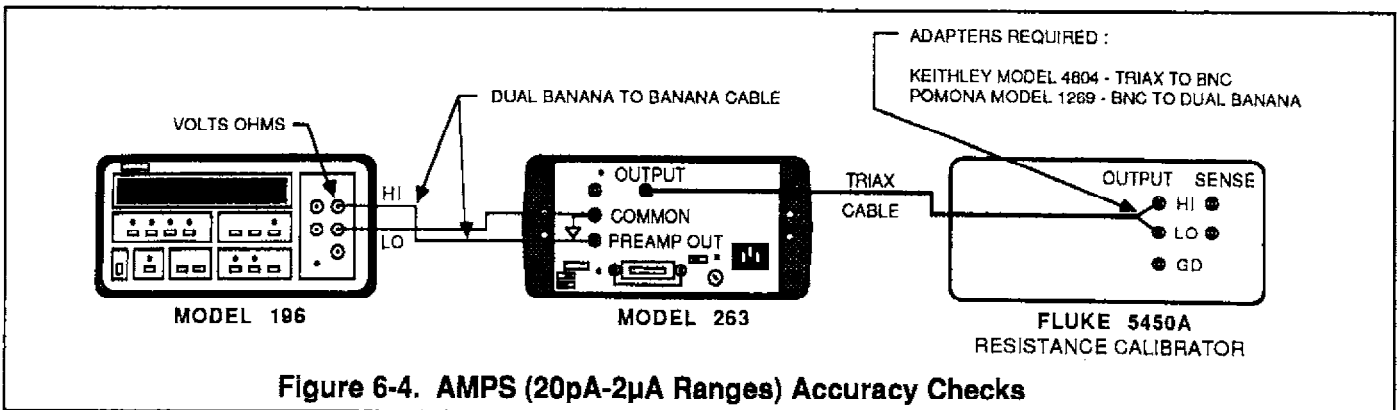

Figure 6-4. AMPS (20pA-2µA Ranges) Accuracy Checks
1. Connect the Model 263 to the Model 196 and Fluke Model 5450A as shown in Figure 6-4.